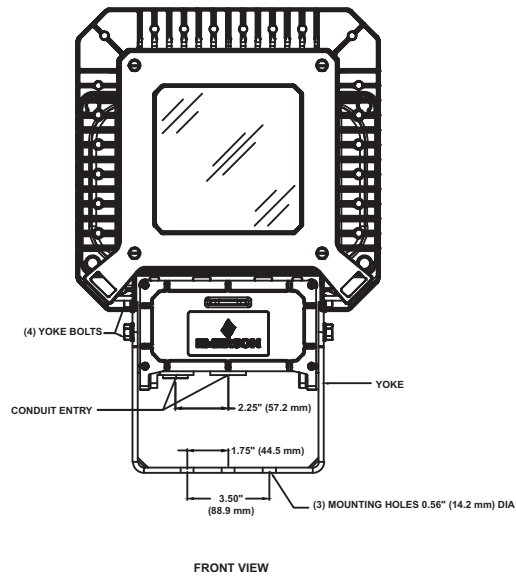

Figure 2: Luminaire with Yoke
The Areamaster High Lumen LED luminaire with yoke (supplied) will mount directly onto flat surfaces. The yoke has a center clearance hole for a 1/2 inch (12.7 mm) bolt and two 1/2 inch (12.7 mm) clearance holes spaced 3-1/2 inches (88.9 mm) apart on the yoke center line. See Figure 2.
1. Mount the luminaire with yoke to a flat surface using user-supplied hardware. See Figure 2 for mounting hole locations.
2. Slightly loosen the four yoke bolts and tilt the luminaire to the desired position with your free hand. See Figures 2 & 3.